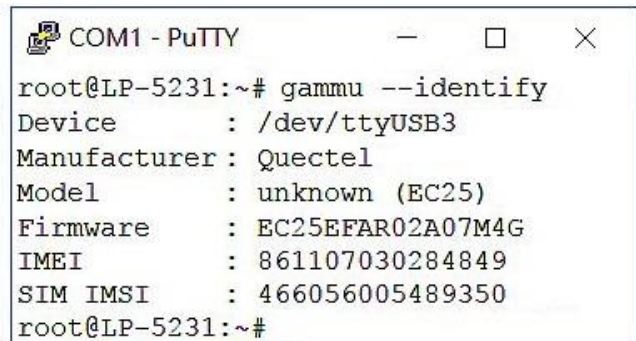

Figure 5.6.2.1-6.
Step 3: Use the '`gammu --identify`' command to verify that the configuration is functioning as expected, as illustrated in Figure 5.6.2.1-6.